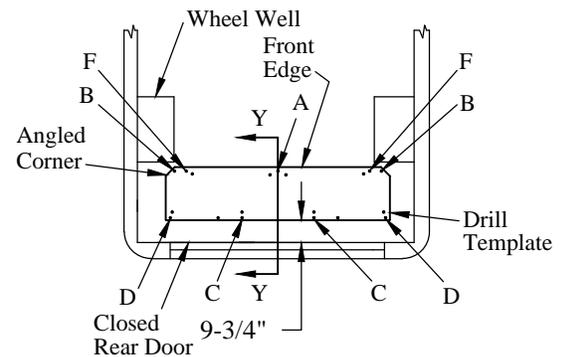

Figure 4: Drill template location (top view).
- 9-3/4" from the the closed rear doors at the center (Figure 4).
5. Mark the floor covering around the template, leaving clearance as shown (Figure 4).